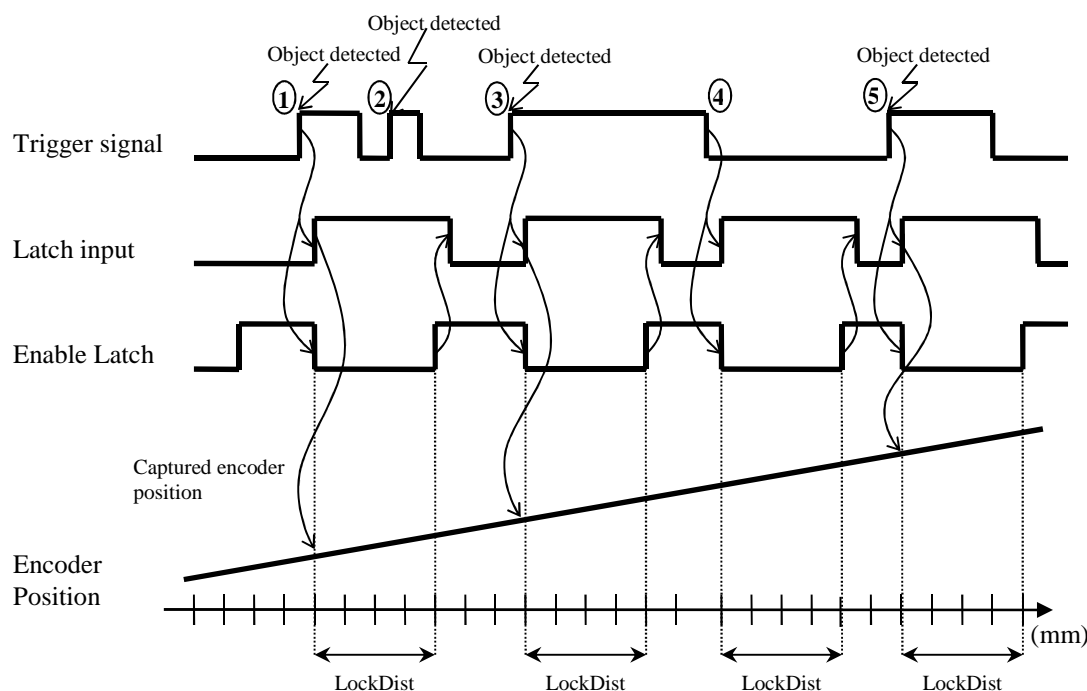

Figure 5.6
The time diagram in figure 5.6 shows the state of the various input/output signals that are involved in the position capture of the encoder position. Depending on the hardware, the name of the signals may be different as described in the following table:
The situation marked ④ is a case in which an encoder position is captured whereas this is not object detection. This happens with systems that capture encoder position on both rising and falling edges of the trigger signal. In the figure 5.6, the state of the trigger signal remained HIGH longer than the distance during which the position capture feature is disabled. To avoid that situation, you must increase the value of the LockDist parameter.